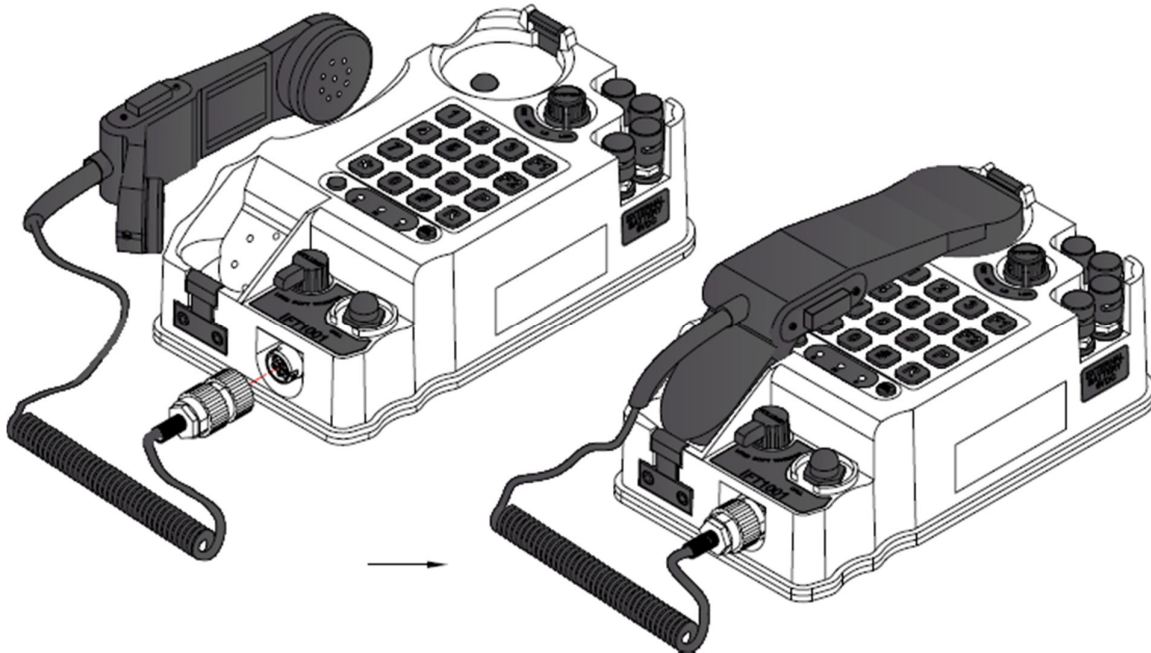

Figure 3 : Fixation of handset
- Rotate clock wise, the handset connector mounting on the coil cord of handset, pushing it towards the socket until it is tighten properly as shown in Figure 3.